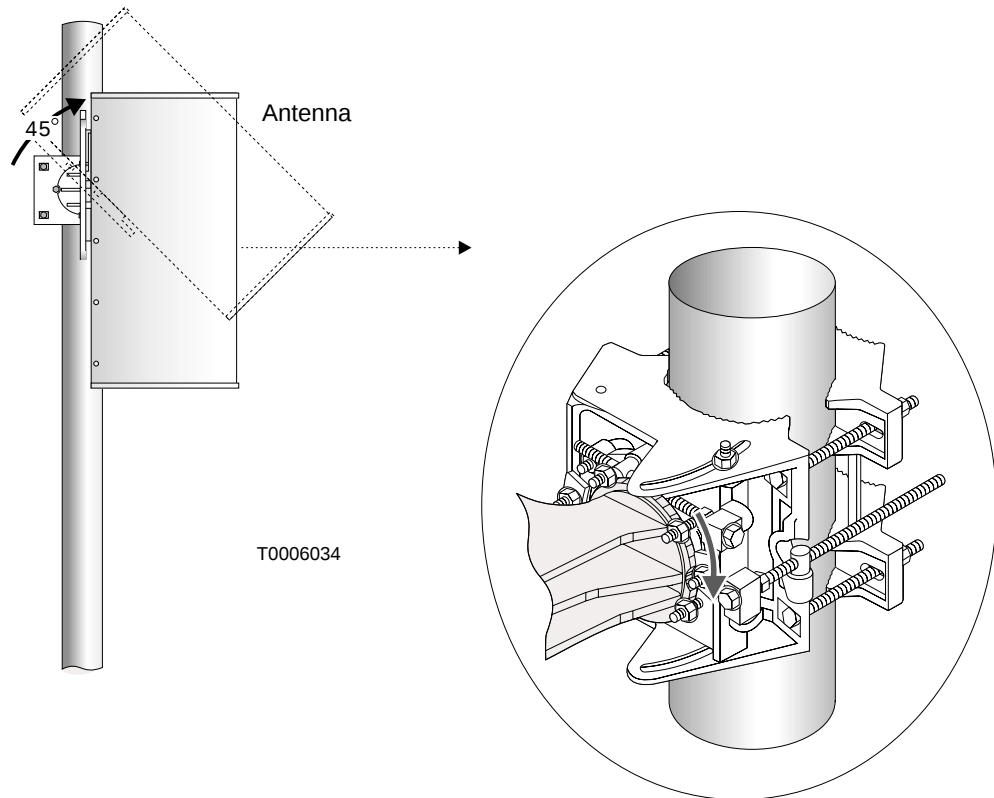

Figure 4-12 Rotating the antenna to the upright installation position
4. Rotate the antenna approximately 45° toward the HT alignment direction (sector), to the upright position, as shown in figure 4-12—then **finger tighten** the antenna bracket locking nuts so the antenna is snug and without excess movement.